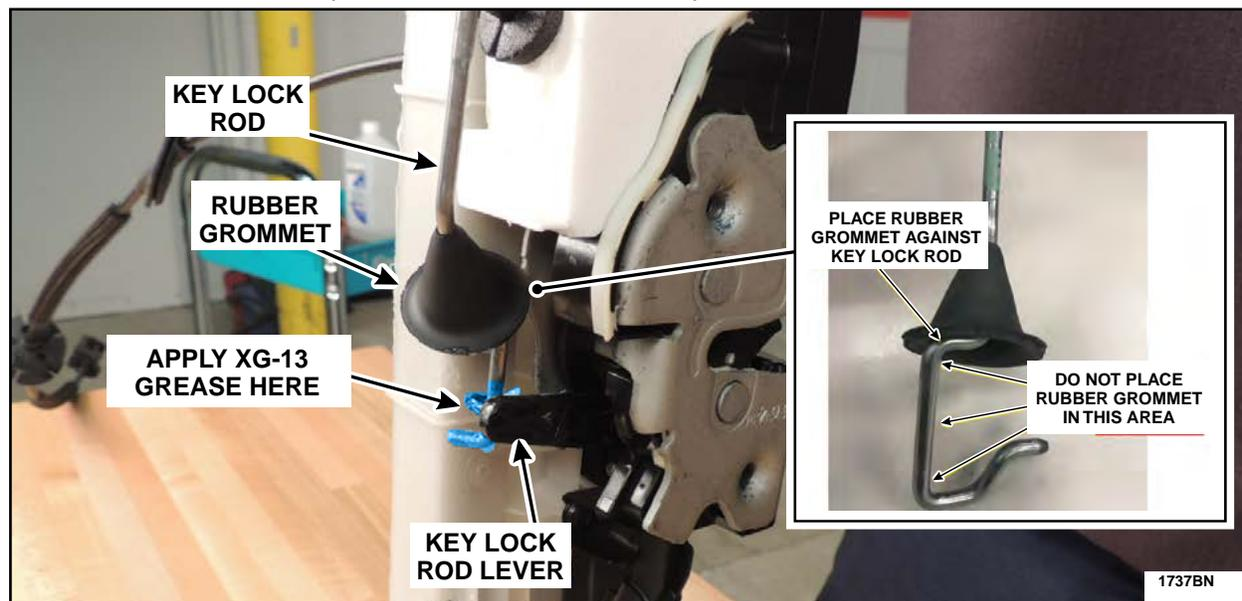

FIGURE 36
6. For driver side only, apply Motorcraft® XG-13 grease to the area where the key lock rod attaches to the key lock rod lever. See Figure 36.
7. For driver side only, install the rubber grommet onto the key lock rod over the key lock rod lever. The rubber grommet should be positioned as shown. The rubber grommet will sit sideways when installed properly. See Figure 36.